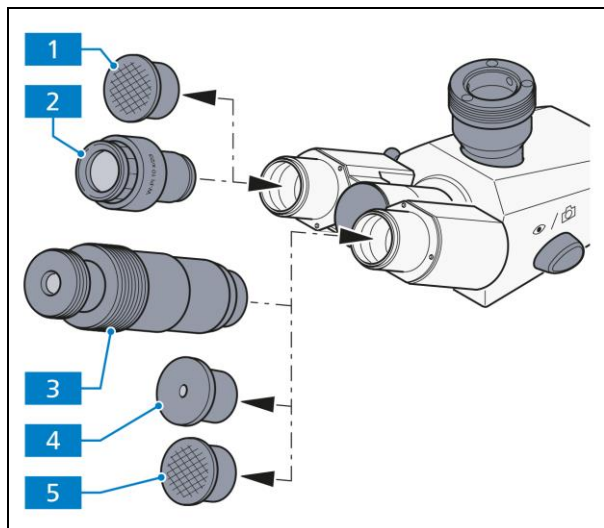

Fig. 3-4 Inserting eyepieces
- Remove both dust caps (Fig. 3-4/1 and 5) from the binocular tube.
- Remove both eyepieces (Fig. 3-4/2) from the box and insert them into the binocular tube to the stop.
- Instead of an eyepiece you may insert an auxiliary microscope (Fig. 3-4/3) into one of the binocular eyepiece tubes in order to observe aperture, phase and darkfield diaphragms and to center phase and darkfield diaphragms. These diaphragms can be focused with the adjustable eye lens of the auxiliary microscope.
- The auxiliary microscope (Fig. 3-4/3) or pinhole diaphragm (Fig. 3-4/4) can be used to observe conoscopic images.